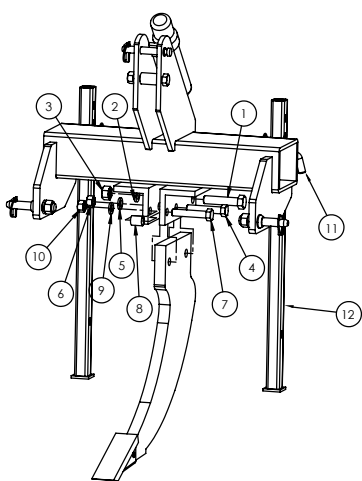

Figure 2. 1S Shank Assembly
3. Place the parking stands Figure 2 (Ref. 12) into the frame and secure with pins(Ref. 11).
4. Attach the shank into the two welded angle brackets on the frame, as shown in Figure 2 using one 7/8" x 4" GR. 5 bolt supplied (Ref. 1), one 7/8" lock washers (Ref. 2) and one 7/8" hex nuts (Ref. 3) and one 3/4" x 4" GR. 2 shear bolt (Ref. 4), one 3/4" lock washer (Ref. 5) and one 3/4" hex nut (Ref. 6).
3. Place the parking stands Figure 2 (Ref. 5) into the frame and secure with pins(Ref. 4).
3. Place the parking stands Figure 2 (Ref. 8) into the frame and secure with pins(Ref. 7).